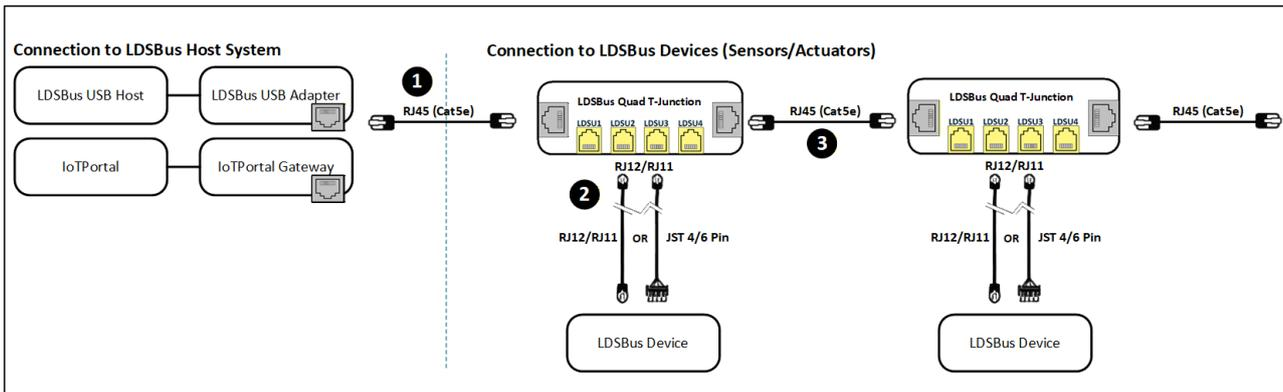

Figure 2 - Connection Diagram
Figure 2 illustrates the connection of the LDSBus ORP Sensor (LDSBus Device) to the LDSBus. Please visit <https://brtsys.com/resources> to view the full device application, setup, and installation guides.
2. Connect the configured LDSBus ORP Sensor Adapter to the LDSBus Quad T-Junction as shown in Figure 2.
3. If there is more than one LDSBus Quad T-Junction, chain them together as shown in Figure 2.